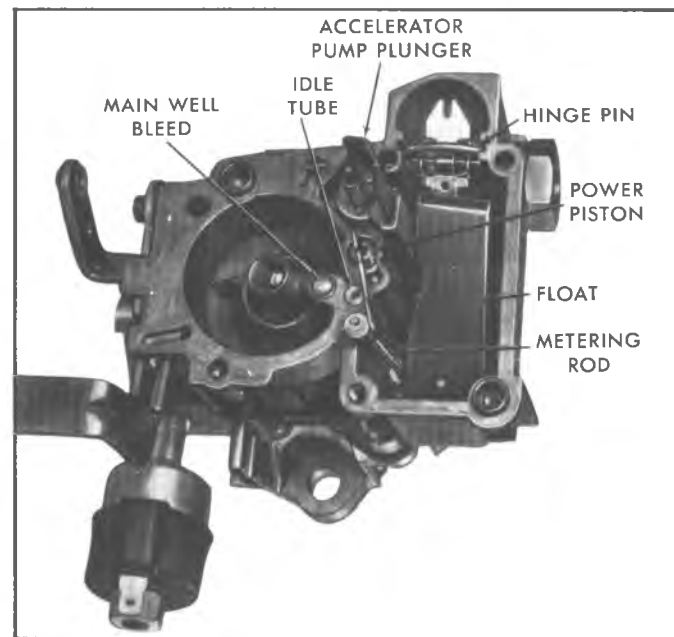

Fig. 4—Float and Accelerator Pump
2. Remove float assembly from float bowl by lifting upward on float hinge pin. Remove hinge pin from float arm (Fig. 4).
- actuator lever from end of throttle shaft by removing lever attaching screw (Fig. 4).
5. Hold down on power piston while removing lever. Power piston spring and metering rod assembly may now be removed from float bowl (Fig. 4).
8. Push down on pump discharge "T" until flush with bowl casting. (Fig. 4).
carburetor bore. Tang on upper end of link retains link to pump shaft. (Fig. 4).